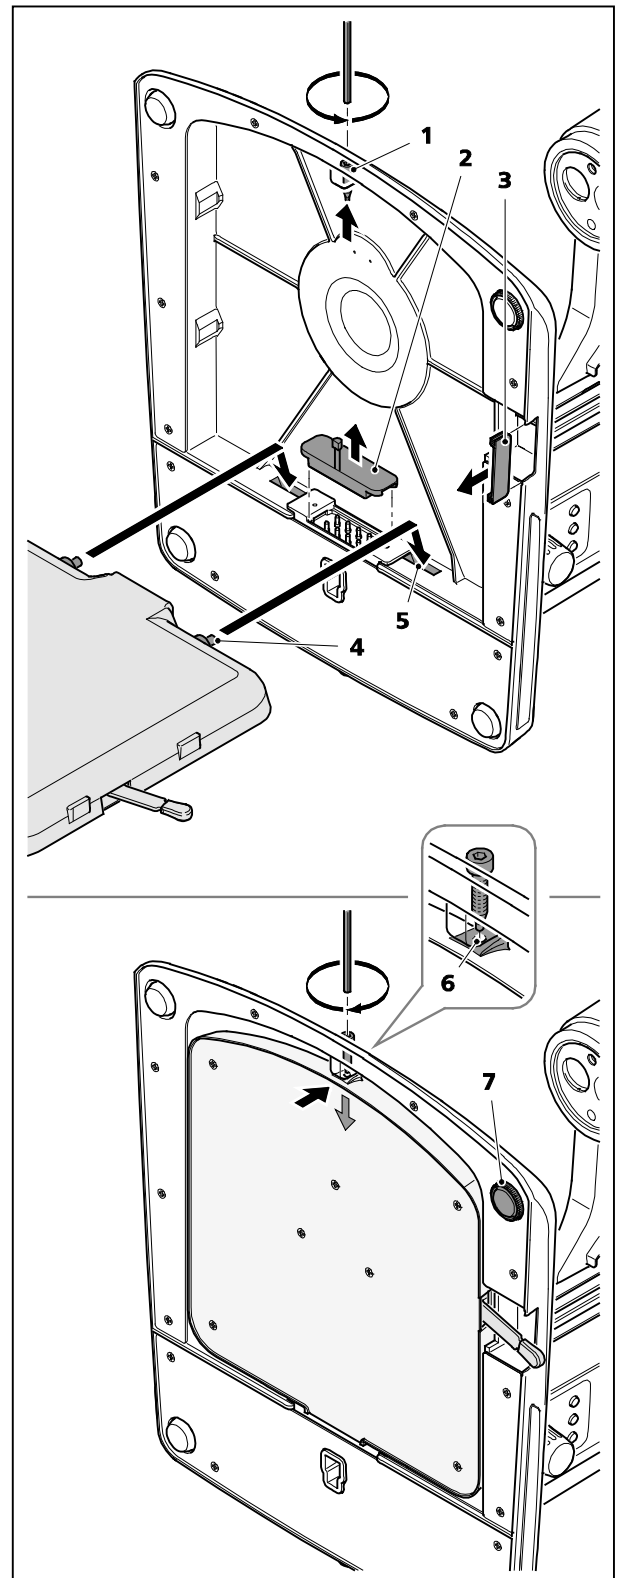

Fig. 2 Mounting the Transilluminator Brightfield M LED
- Unscrew 3 mm Allen screw (Fig. 2/1) and put it to one side.
- Remove cover flaps (Fig. 2/2 and 3).
- Insert the Transilluminator Brightfield so that the two pins (Fig. 2/4) click into the recesses (Fig. 2/5) on the bottom of the stand.
- Screw the 3 mm Allen screw into the tapped hole (Fig. 2/6) of the stand until the tip of the screw engages in the hole of the Transilluminator Brightfield.
- Return the stand to upright and, if necessary, prevent wobbling by adjusting the height-adjustable foot of the stand base (Fig. 2/7).